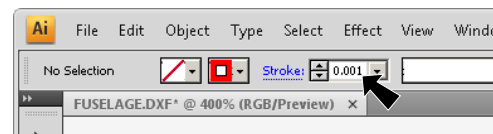

Fig. 56
Step 5. Key-in **Stroke .001** in the Control Panel, **Fig. 56**.